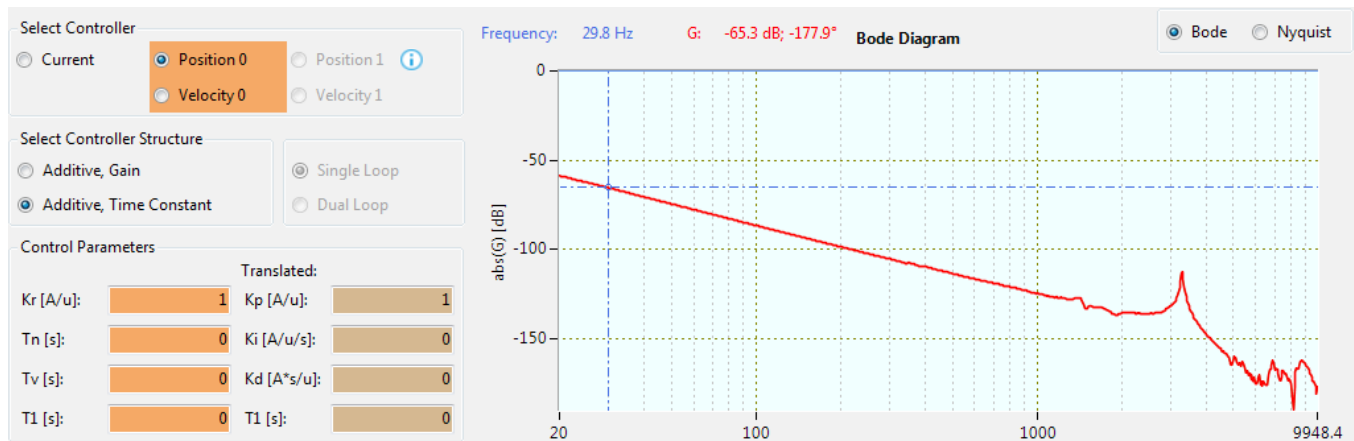

Figure 68: Calculation of the acceleration feed forward. With a measured amplitude of -65.3dB at 29.8Hz, the acceleration feed forward is set to 0.052.
4. At lower frequencies the amplitude in the Bode view of *Gopen* should show a linear section with a drop of 40dB per frequency decade. Measure the amplitude *A* with the cursor at a frequency *f* within the linear section (see also Figure 68). The acceleration feed forward can be calculated with the following equation.